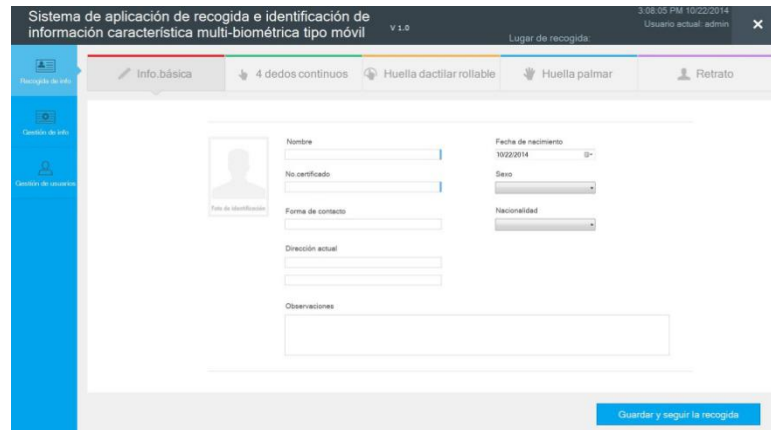

Figure5.1.1.1
- 1, Enter to the first interface of system, and shows directly the basic information interface (as shown in figure 5.1.1.1).